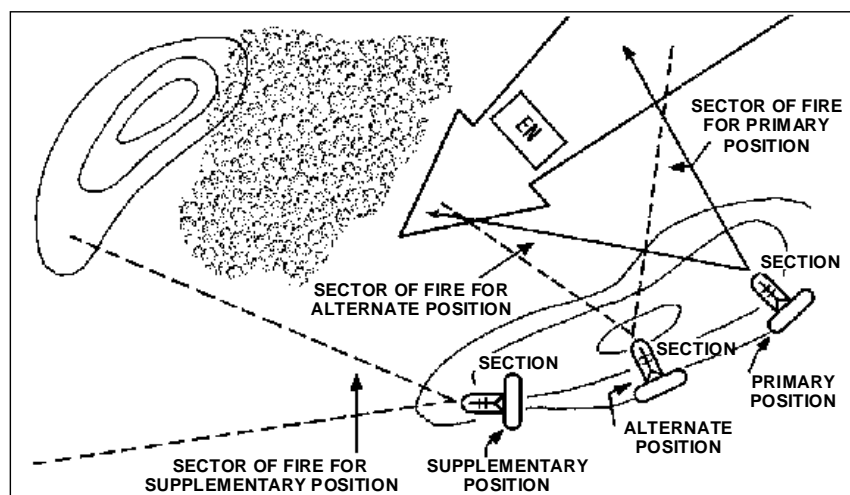

Figure 1. Primary, alternate, and supplementary positions.
7. Each squad should choose a primary firing position and as many alternate positions as practical. Depending on its terrain and mission, the squad may be assigned a supplementary position (Figure 1). Primary and alternate positions are used both in the attack and in the defense. A supplementary position is used only in the defense.